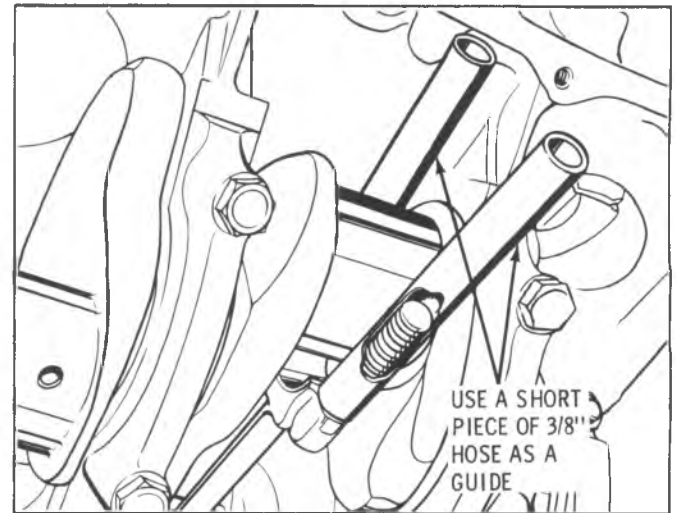

Fig. 6A6-62—Connecting Rod Bolt Guide
2. Position pump onto the rear main bearing cap and install attaching bolts. Torque bolts to 35 lb. ft. (47 N·m) (Fig. 6A6-61).